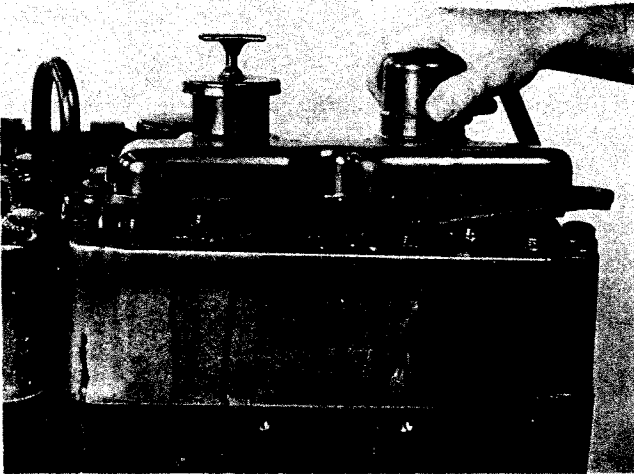

Fig. 0-21, (N100146). Removing rocker housing covers
1. Remove rocker housing covers and discard gaskets. Fig. 0-21.